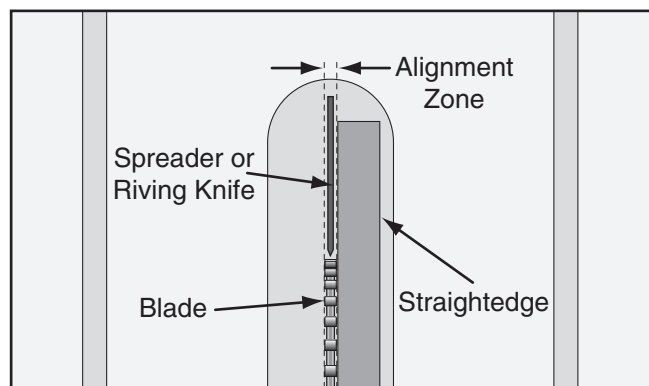

Figure 112. Spreader/riving knife alignment zone.
5. The spreader/riving knife should be parallel with the blade along its length at both positions and should be in the "Alignment Zone," as shown in **Figure 112**.